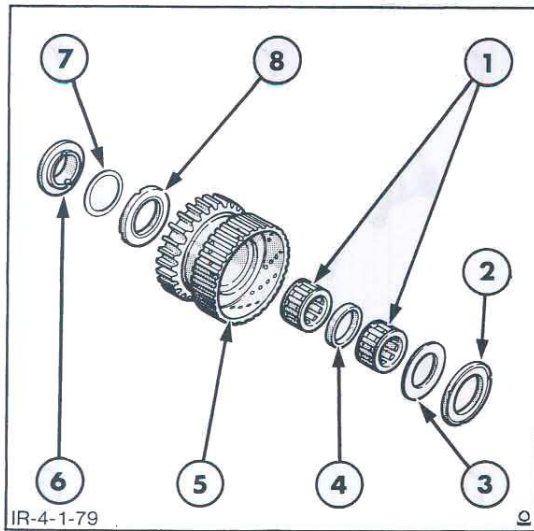

Figure 87
- Place the thrust washer, Figure 87, on the flat hub of the clutch housing (the hub in the front of the housing is recessed), then install the rear clutch hub (reverse idler input), bearings, and spacer. Install the clutch plates, one by one, starting with a steel plate then a bronze plate.